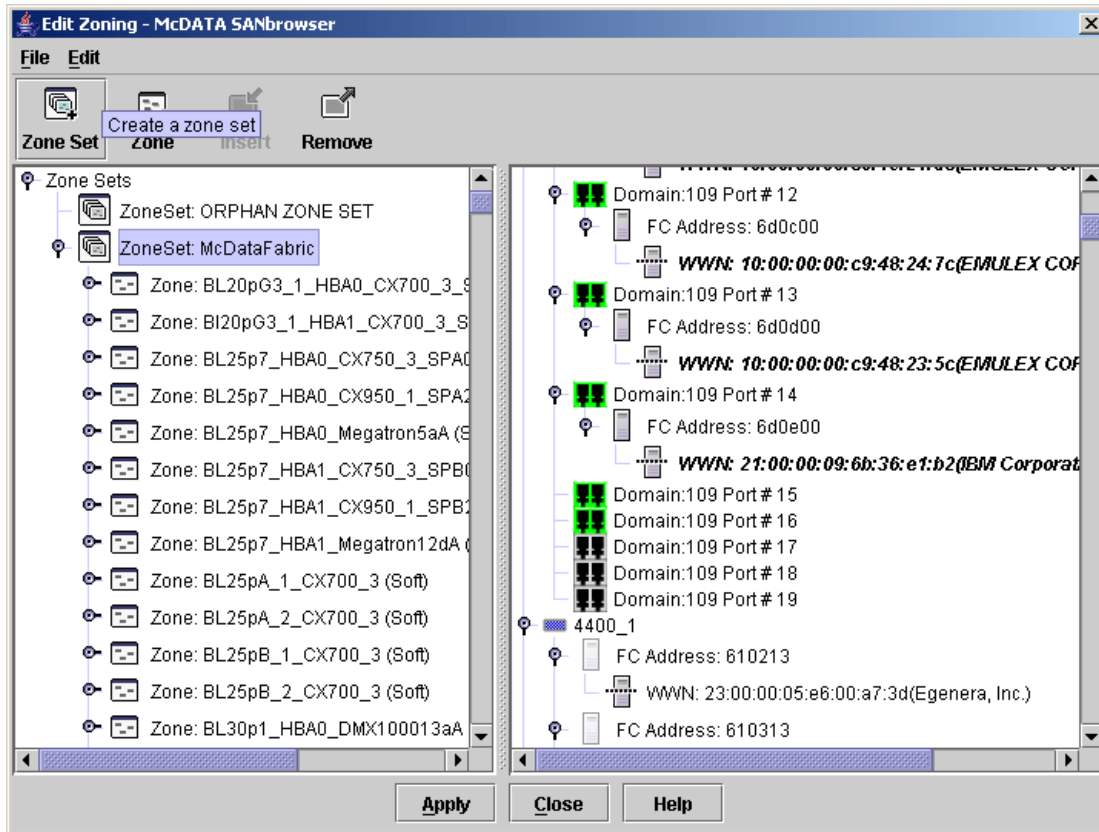

Figure 8-19 Edit Zoning - McDATA SANbrowser window
10. From the McDATA SANbrowser Faceplate window, select **Zoning** → **Edit Zoning**. You will see a window similar to Figure 8-19 on page 243.